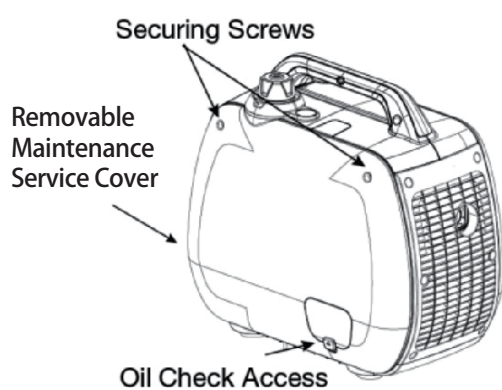

Fig. 14A
1. Loosen the cover screws and remove the maintenance cover. (Fig. 14A)